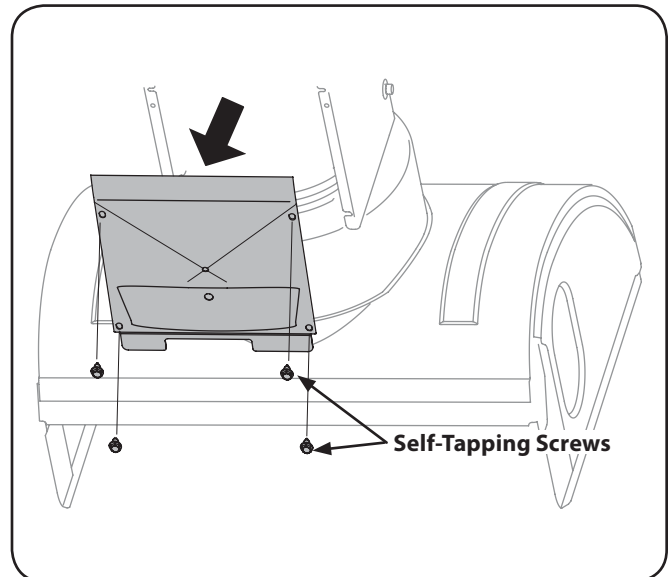

Figure 6-2
2. Remove the frame cover from the underside of the snow thrower by removing the four self-tapping screws which secure it. Refer to Fig 6-2.